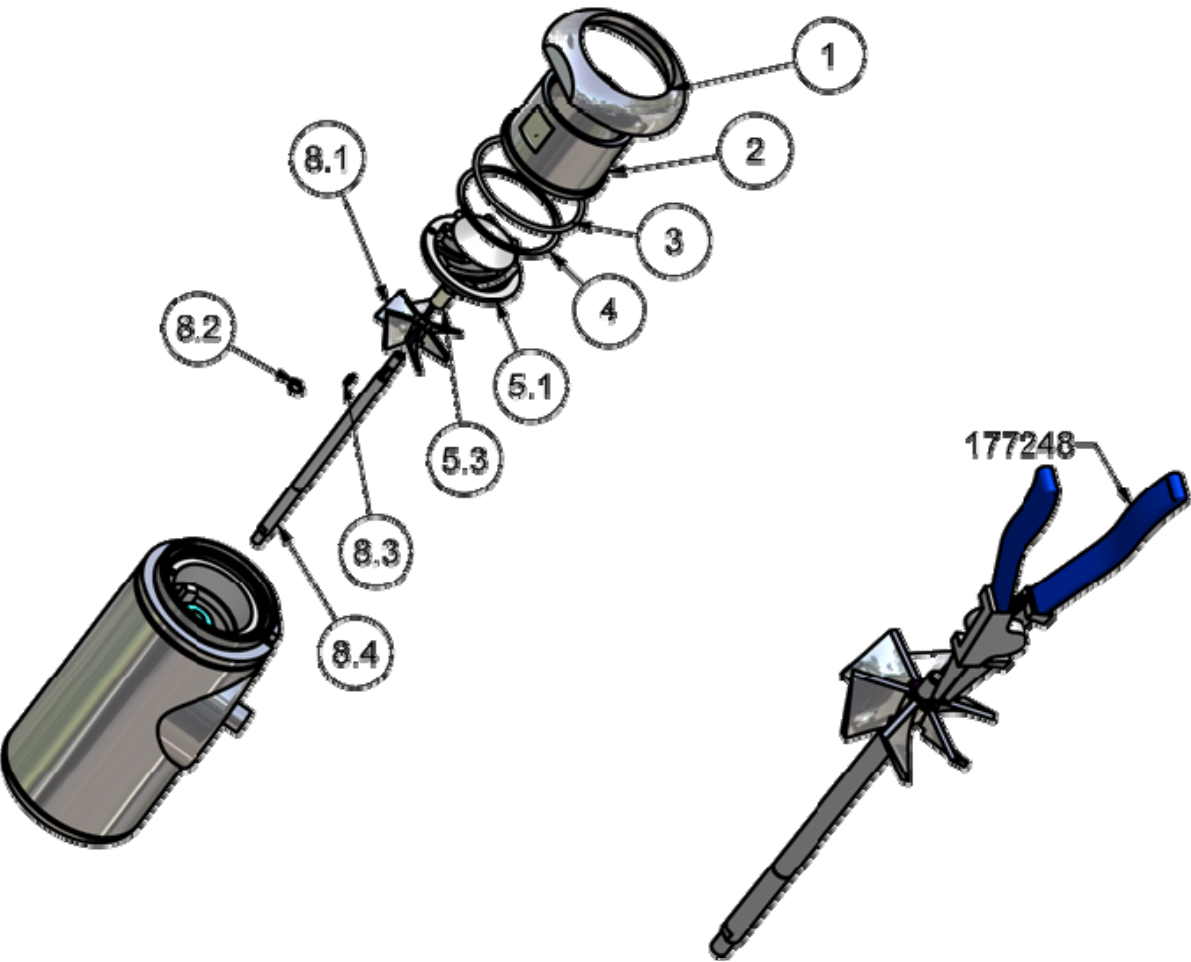

Figure 10
7. Remove position 8.2 using snap-ring pliers (see Figure 22 and Figure 10)